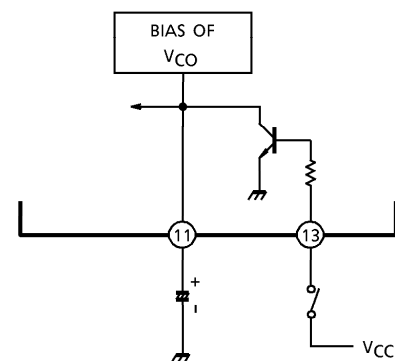
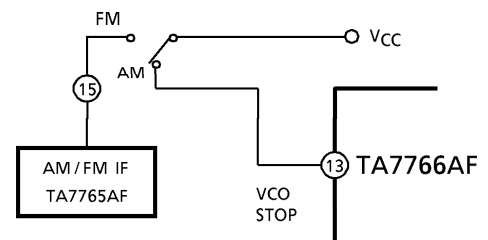

Fig.4
Fig.5
(4) Compulsive monaural function
In case that the terminal pin⑬ is connected to V_{CC} as Fig.4, this item becomes compulsive monaural mode. That causes the VCO stopping. Connected as Fig.5, switchover between AM / FM mode is possible with one-make switch.